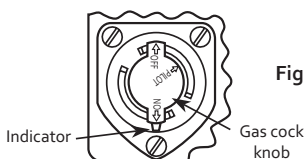

Figure 10. Gas Cock Knob
4. Depress gas control knob slightly and turn clockwise to **OFF** (see fig. 10). If knob is in **ON**, turn clockwise to **PILOT**, then depress knob slightly and turn clockwise to **OFF**.
5. Wait fifteen (15) minutes to clear out any gas. If you then smell gas, **STOP!** Follow **B** in the precautionary information above. If you don't smell gas, go to next step.
9. Depress control knob all the way and hold in. Immediately light the pilot with a match. Continue to hold the control knob down for about one (1) minute after the pilot is lit. Release knob and it will pop back up. Pilot should remain lit. If it goes out, repeat steps 4, 5, 8, and 9.